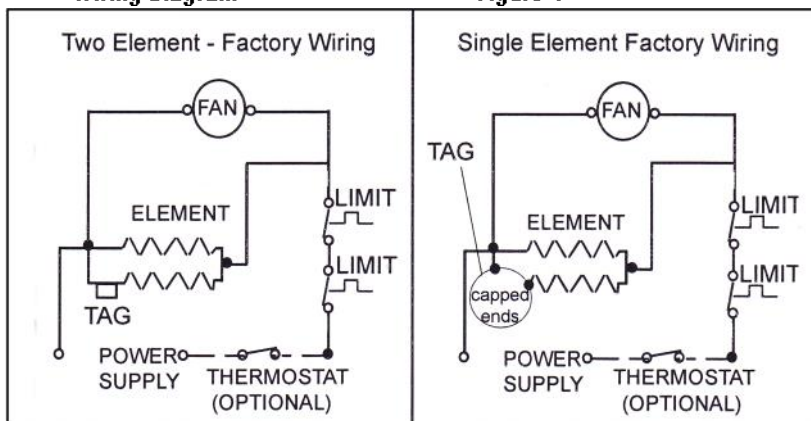

Figure 4
5. A safety limit control is provided to turn off the heater automatically if it is blocked or otherwise overheats due to an abnormal condition. **DO NOT** bypass or remove this safety device from the electrical circuit-see Warning Figure 4 on page 2. During normal use, this safety control should not operate. If you find that this control is operating, make sure the heater is not being blocked. If it continues to cycle the heater off, disconnect power to heater and have it checked and repaired by a qualified electrician.